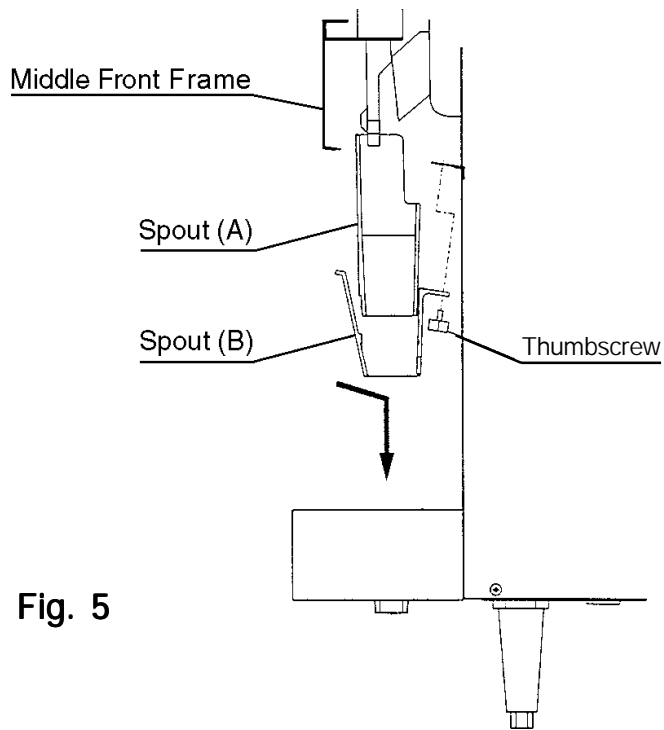
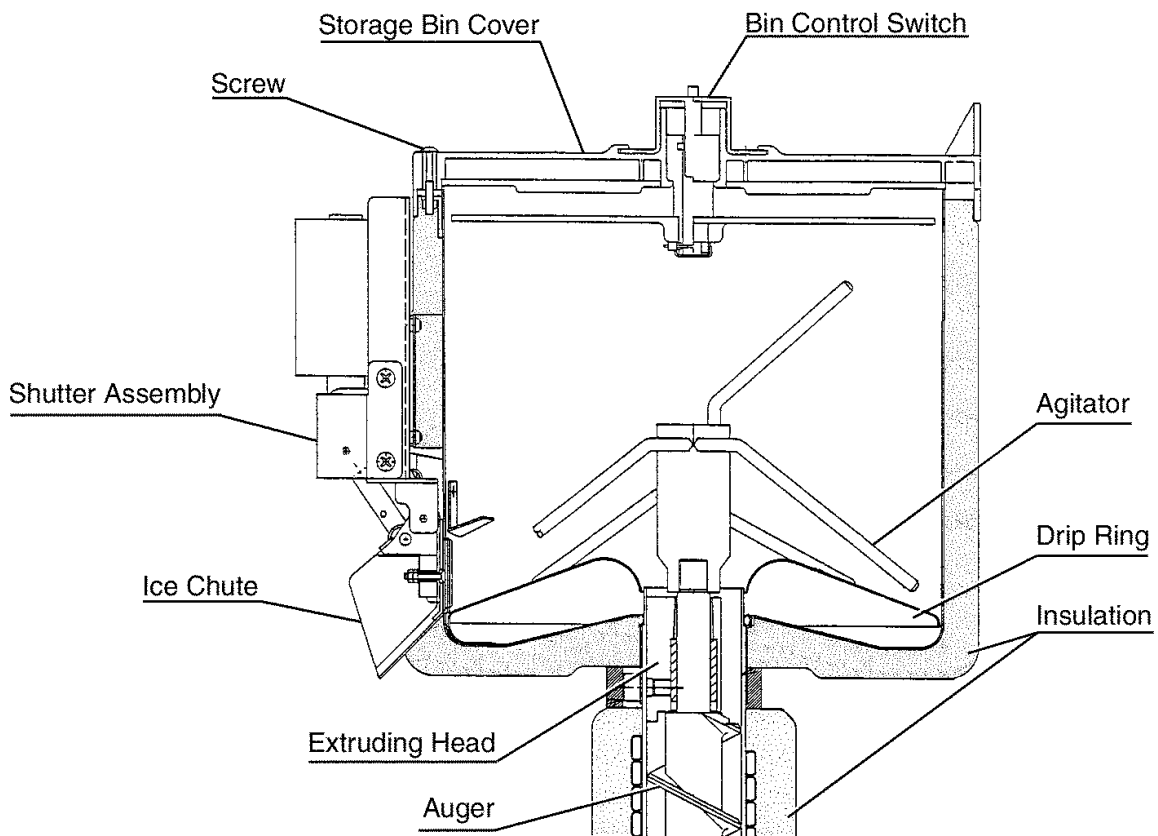

Fig. 5
Fig. 6
- 6) Remove the Spouts (A) and (B) by removing the Thumbscrew, sliding the Spouts backward and then pulling them down. See Fig. 5.
- 7) Pull out Spout (A) from Spout (B).
- 8) Remove the Top Panel and Storage Bin Cover. See Fig. 6.
- 9) Remove the Agitator and Drip Ring. Wipe, using a clean cloth containing the cleaning solution. See Fig. 6.
- 17) Wipe the Storage Bin Cover and Spouts (A) and (B) using a clean cloth containing the cleaning solution.